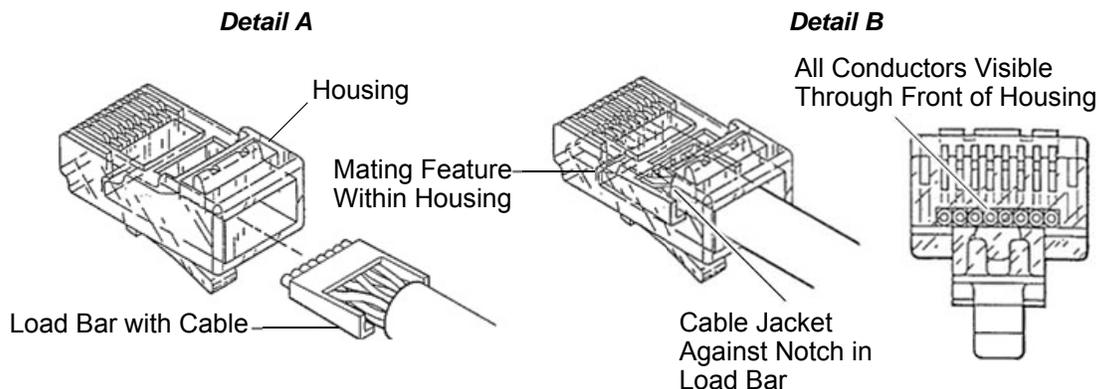

Figure 5
3. The load bar must be fully inserted into the mating feature within the housing of the modular plug. See Figure 5, Detail A. The conductors must be completely inserted and bottomed in the wire circuits and clearly visible through the front of the housing. See *Figure 5, Detail B*.